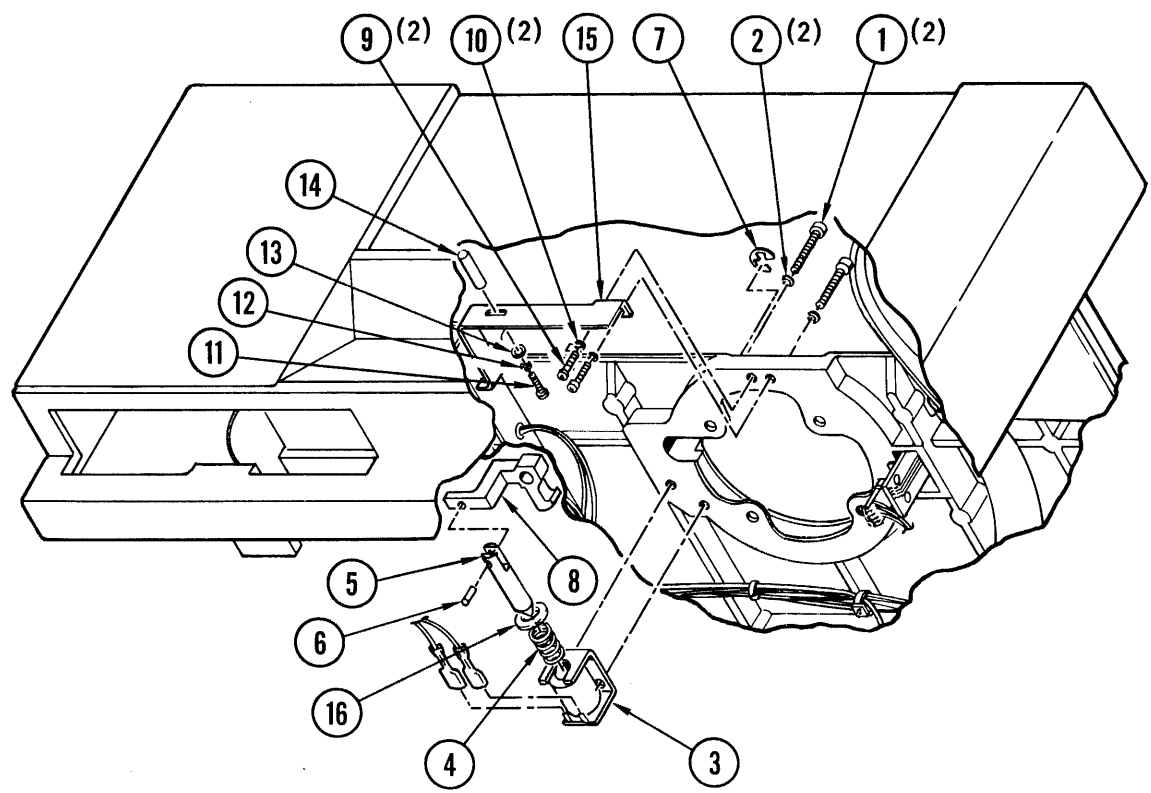

Figure 4-29. Hub Lock Assembly
- c. Remove wire terminals from solenoid (3, Figure 4-29) and identify for reassembly.
- d. Remove two screws (1), and lockwashers (2), and remove solenoid (3) from top plate and spring (4) and washer (16) from solenoid plunger (5).
- e. If plunger (5) or bellcrank (8) must be replaced, remove supply motor in accordance with instructions in paragraph 4-44. Remove retaining ring (7) and bellcrank (8) from motor, and press out pin (6), releasing plunger (5).
4-47. **Manual Unlock Assembly (Hub Lock) (Figure 4-29).** To replace the manual unlock assembly or one of its parts, proceed as follows:
- b. Remove manual unlock assembly from top plate by removing two screws (9, Figure 4-29) and lockwashers (10).
- c. Remove pin (14) from bracket (15) by removing screw (11), lockwasher (12), and flatwasher (13).